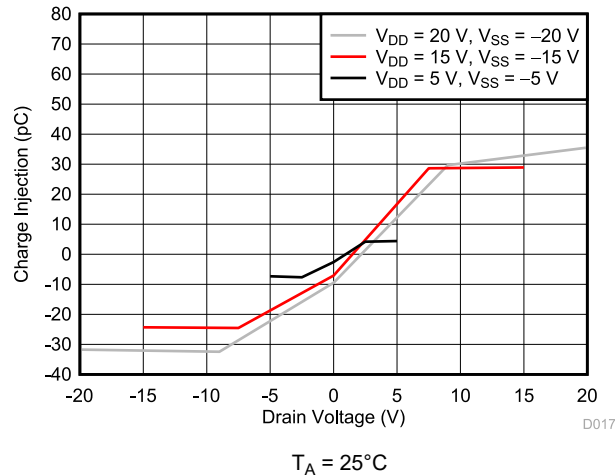

Figure 10-3. Charge Injection vs Drain Voltage
The low on and off leakage currents of TMUX7208 and ultra-low charge injection performance make this device ideal for implementing high precision industrial systems. The TMUX7208 contains specialized architecture to reduce charge injection on the drain side (D) (see Section 9.3.7 for more details). Figure 10-3 shows the plot for the charge injection versus source voltage for the TMUX7208.